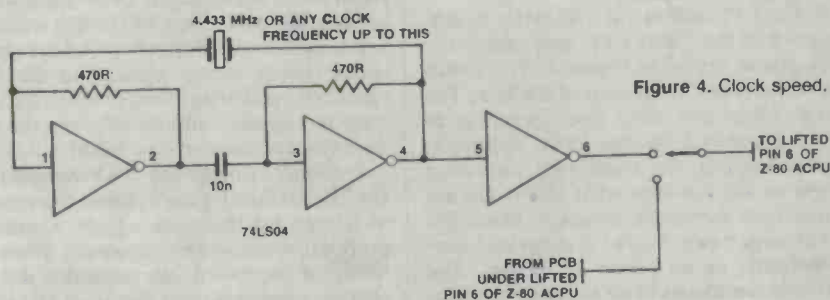

Figure 4. Clock speed.
2. The CPU can run at 4.433MHz by lifting pin 6 of the Z80A CPU and adding the clock circuit shown in Figure 4. The switch can be mounted on the top of the box. The speed change will affect tape operation, as this is controlled by the CPU. However, disk operations are unaffected and most programs will run somewhat faster. Do not change over the switch, however, unless the WAIT switch (see below) is depressed simultaneously, or no power is applied. The Z80 does not like its clock signal to be interfered with!